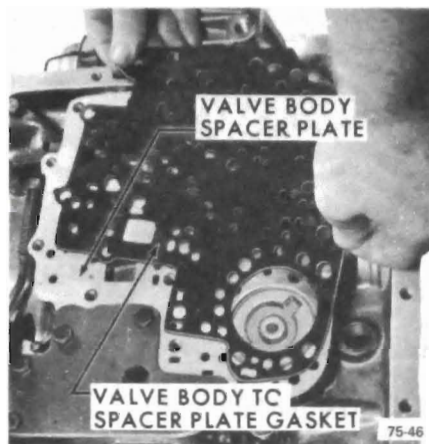

Figure 75-72
3. Remove valve body to spacer plate gasket. See Figure 75-72.